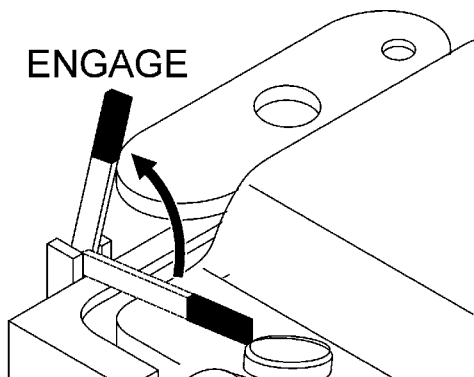

Figure 28. Transmission Engage/Disengage Lever (Engaged Position)
2. Lift the transmission engage/disengage lever, located on the console (Figure 28) to engage. Leaving the lever down disengages the transmission to allow for manual pushing during cutting or moving the machine around the job site.